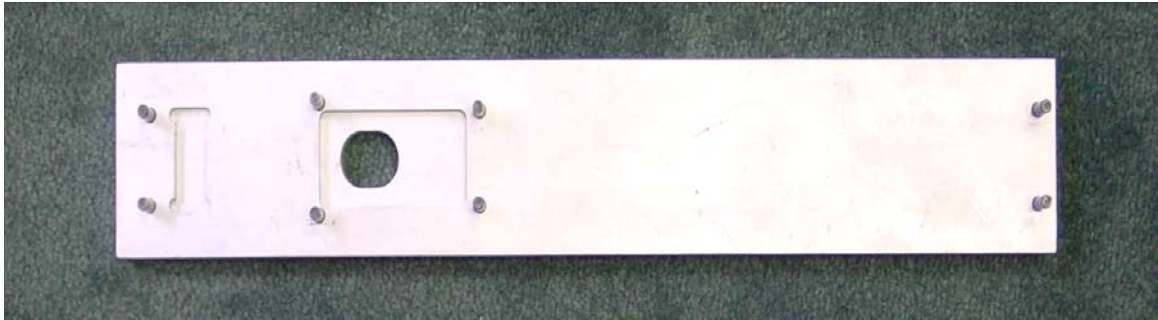

FIGURE A-1. Extension Jig
4. Using an extension jig as seen in FIGURE A-1, insert a tab into slot. Set the transducer over the tab into the transducer hole closest to the cable exit and **loosely** thread on a nut.